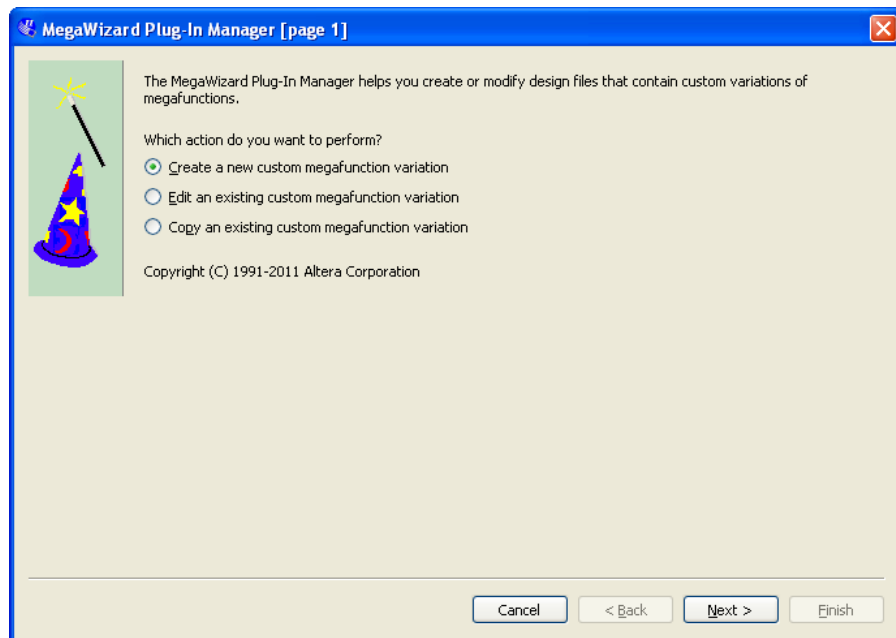

Figure 4. Choose to define an LPM.
2. In the box shown in Figure 4 indicate Create a new custom megafunction variation and click Next.